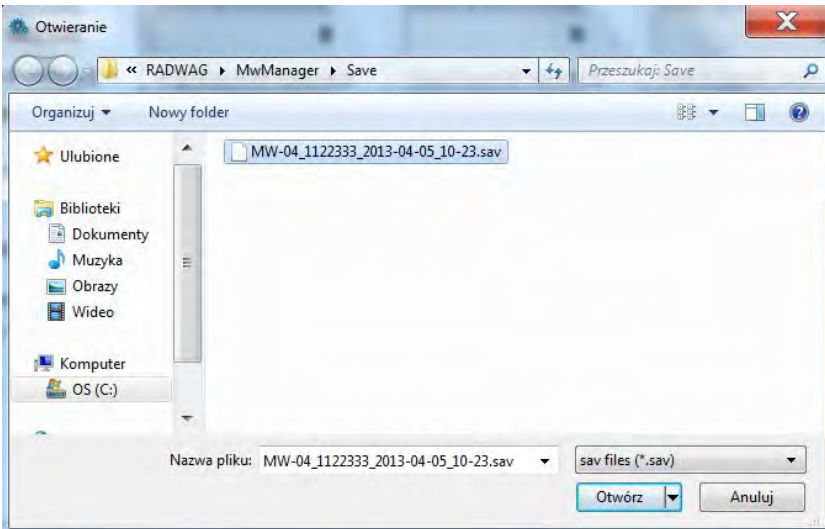

Fig. 29 „Open” window
- Open operating system window, see Fig 29, and select a previously saved file, next press **Open**  button.